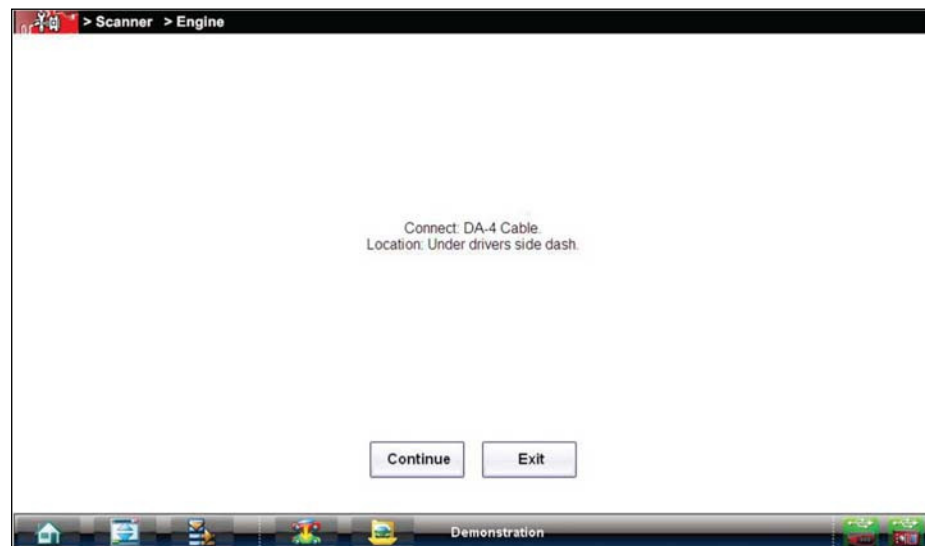

Figure 5-5 Vehicle connection data cable message
While using the Scanner and OBD-II/EOBD functions, on-screen cable and adapter connection instructions are provided. The instructions may also include the location of the vehicle DLC (Figure 5-5). If required, additional connection information can be found in the appropriate vehicle communication software manual for the vehicle. Vehicle communication software manuals are available online, see the website information at the front of this manual.
1. While using the Scanner or OBD-II/EOBD function, follow the on-screen instructions for connecting the cable and/or any adapters required to the vehicle (Figure 5-5).